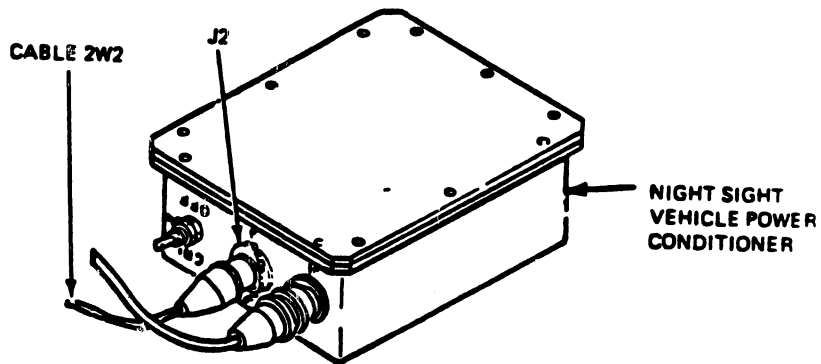

Fig 2-36. Cable 2W2/Connector J2 (night sight vehicle power conditioner).
Step 9. Connect Cable 2W2 to the night sight vehicle power conditioner connector J2 (fig 2-36).